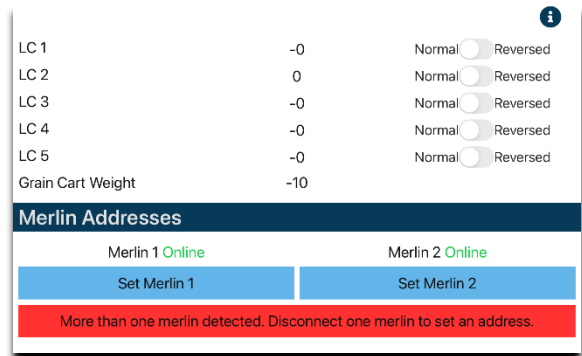

Figure 3 Merlin Weight Readings
5. Check that the loadcell readouts in the Connect app Parameter readings. **Calibration>Load Cells**, See Figure 3.